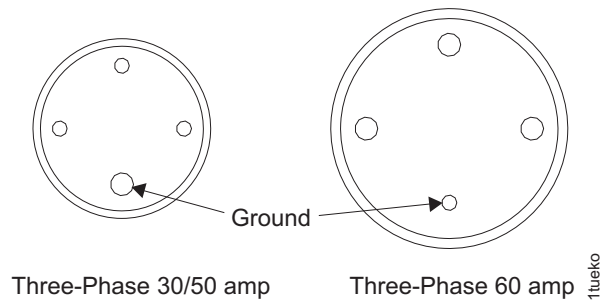

Figure 72. Three-phase amp
5. Prepare the multimeter to measure 0.1 ohm or less resistance. Place one lead of the multimeter on the ground pin of the male plug on the mainline power cable. Place the other lead on the conductive metal of its primary power supply enclosure. Refer to Figure 72 on page 88 for the location of the ground pin. Do this for each mainline power cable.